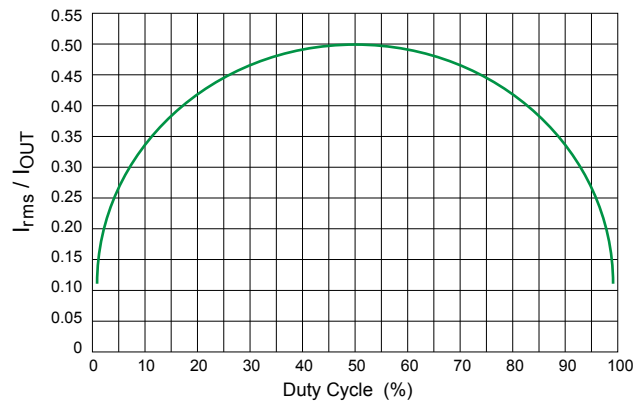

Figure 15: Input Capacitor Ripple versus Duty Cycle
Figure 15 shows the normalized input capacitor RMS current versus duty cycle. To use this graph, simply find the operational duty cycle (D) on the x-axis and determine the input/output current multiplier on the y-axis. For example, at 27.5% duty cycle ($3.3\text{ V}_{OUT} / 12\text{ V}_{VIN}$), the input/output current multiplier is near 0.45. Therefore, if the regulator is delivering 5 A of steady-state load current, the input capacitor(s) must support $0.45 \times 5\text{ A}$ or 2.25 A_{RMS} .